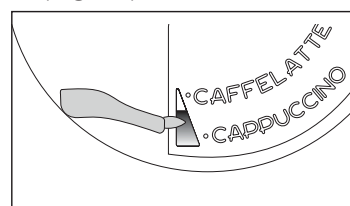

Fig. 41
- ▶ Position the frothed milk regulator (C1) between the words **CAPPUCCINO** and **CAFFELATTE** printed on the milk container lid. The quantity of froth can be adjusted by moving the regulator towards the word **CAFFELATTE** for a denser froth. Moving it towards the word **CAPPUCCINO** obtains a less dense froth (Fig. 41).